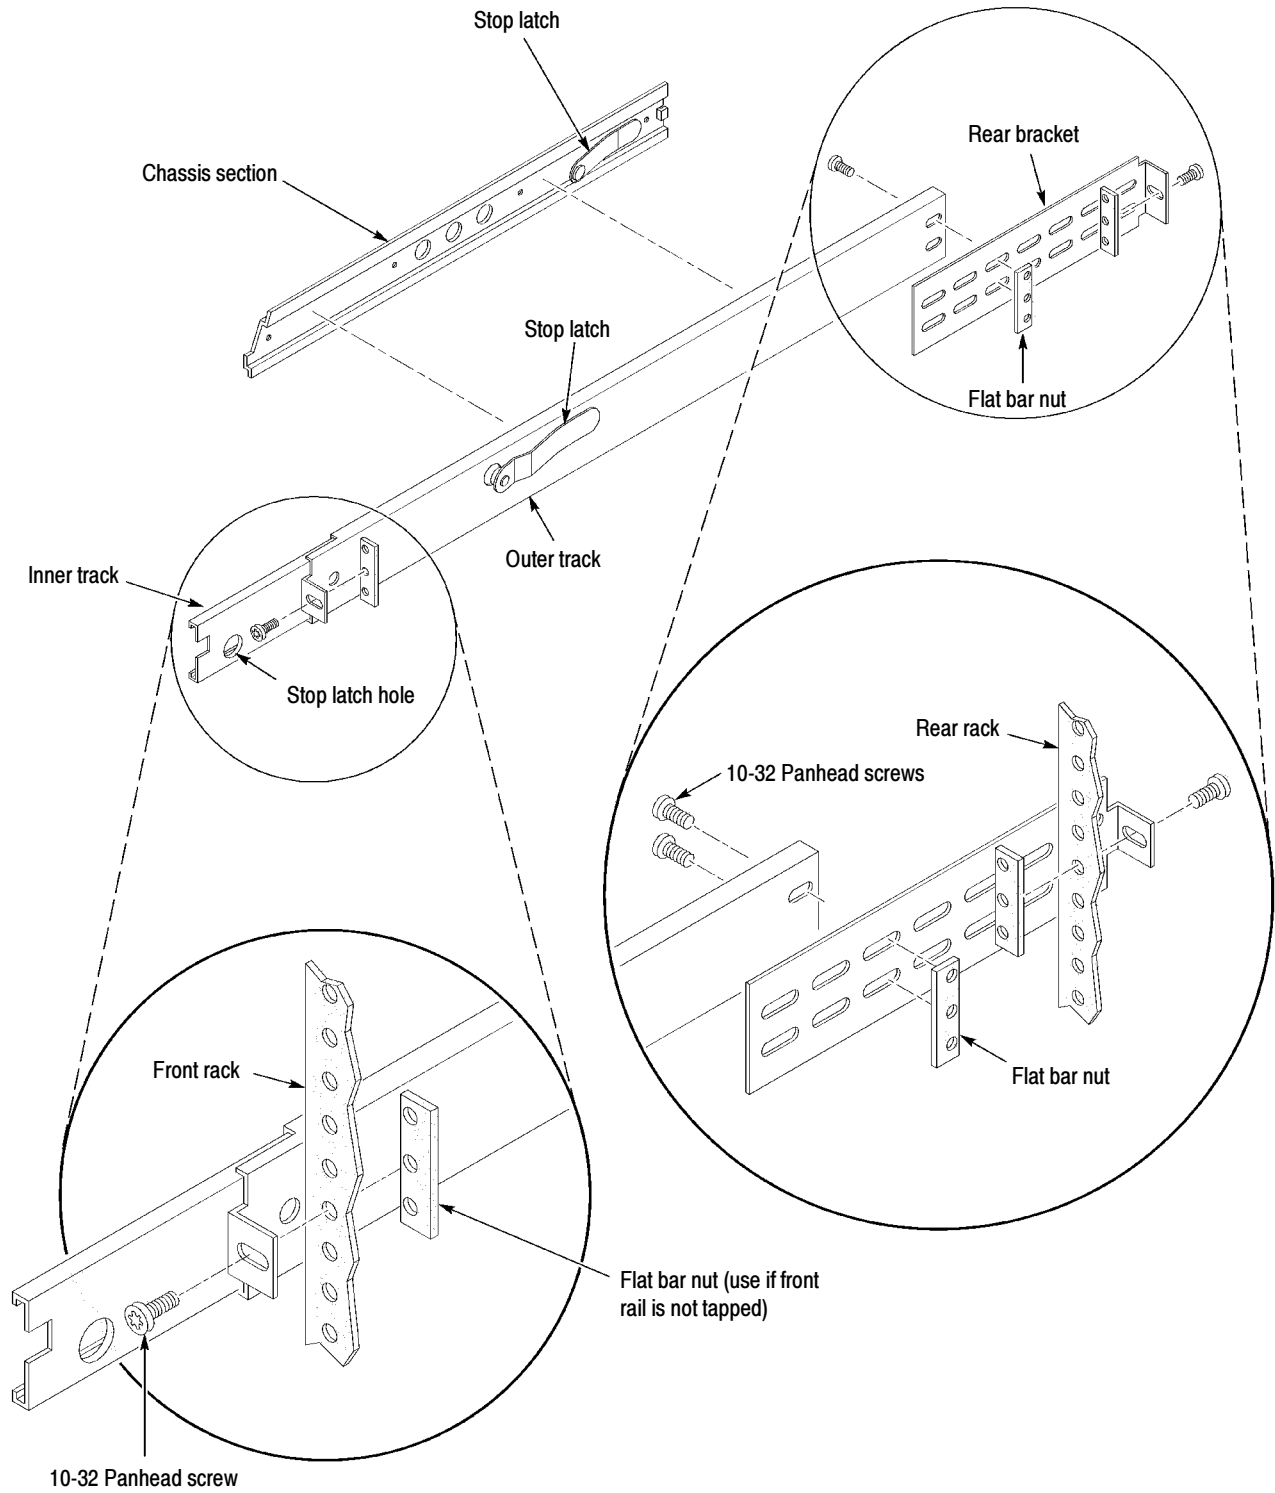

Figure 28: Assembly of slide-out track assemblies (right slide-out track)
3. Align the rear bracket to the right slide-out track as shown in Figure 28. Note that the rear bracket has multiple pairs of mount-through holes. When aligning the bracket and track, be sure to select a pair of holes that mount the rear bracket so that the flange-to-flange distance matches the front-rail to rear rail spacing of the rackmount rack just measured in step 2.